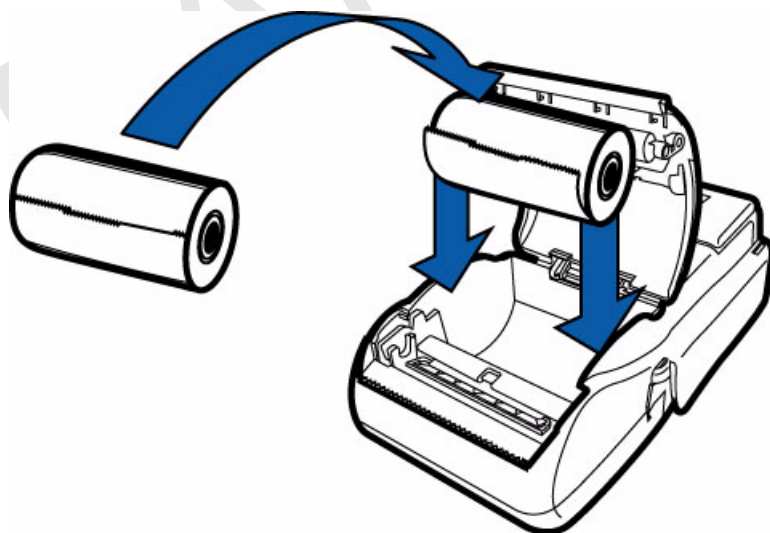

Figure 15 Loading Paper Roll
- 5 Hold the roll so the paper feeds from the *bottom* of the roll when the terminal is inverted (see Figure 15).